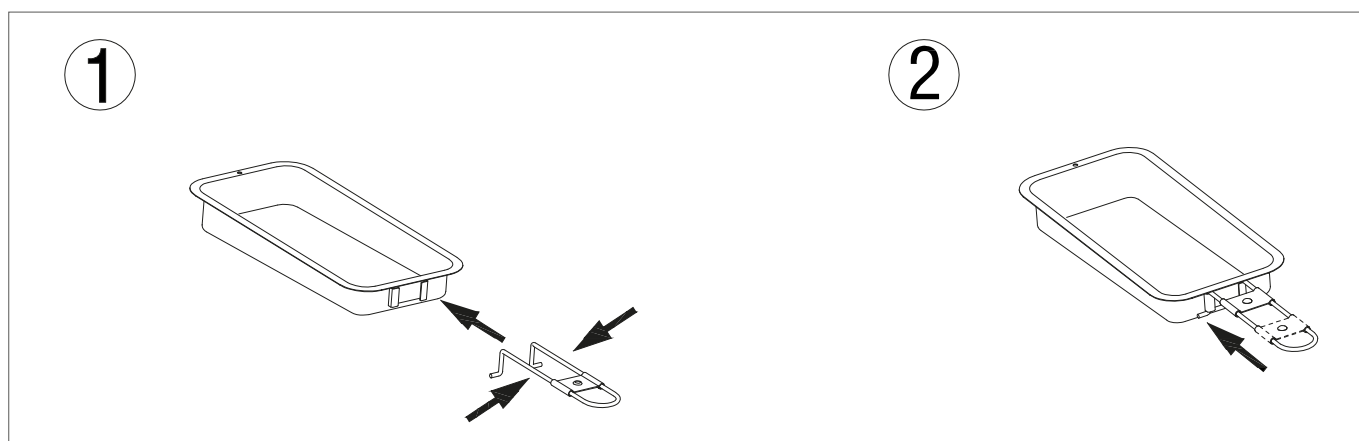

Fig. 3
6. **CAUTION:** The hot fat collected in the drip pan can cause burn injuries. Allow the fat to cool completely before removing the drip pan. The drip pan must only be removed by the included handle (see Fig. 3)!
5. **CAUTION:** The hot fat collected in the drip pan can cause burn injuries. Allow the fat to cool completely before removing the drip pan. The drip pan must only be removed by the included handle (see Fig. 3)!
7. **CAUTION:** The hot fat collected in the drip pan can cause burn injuries. Allow the fat to cool completely before removing the drip pan. The drip pan must only be removed by the included handle (see Fig. 3)